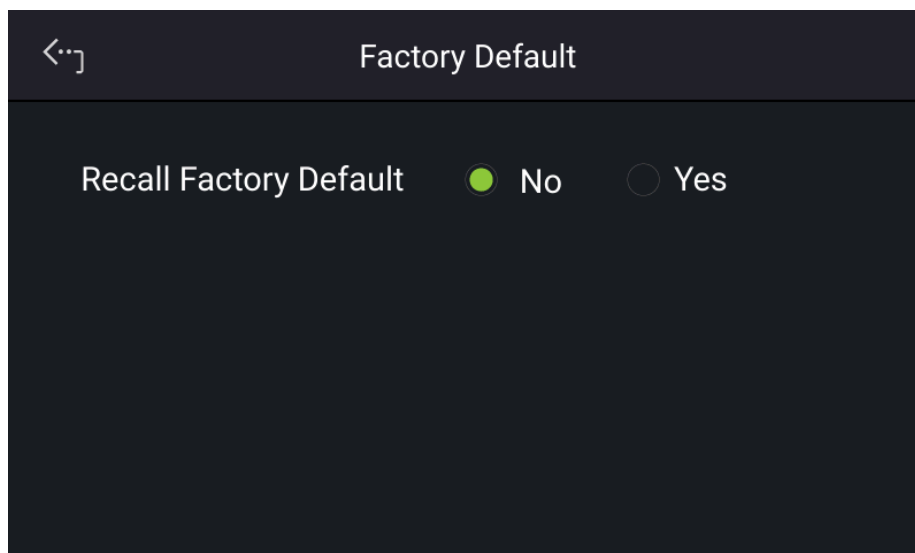

Figure 3-27
1. On the Menu page, tap "System Setup" and select "Factory Default", the screen appears as Figure 3-27 shows.